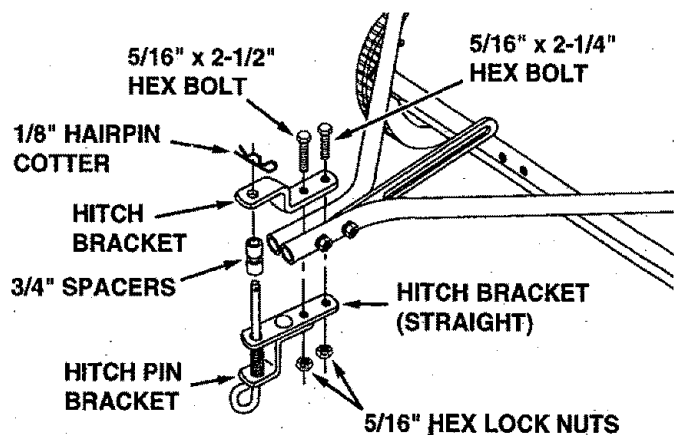

FIGURE 4
- Place the bent hitch bracket on top of the hitch tubes and place the straight hitch bracket with hitch pin underneath the hitch tubes. Fasten together using a 5/16" x 2-1/2" hex bolt (front), a 5/16" x 2-1/4" hex bolt (rear) and two 5/16" hex lock nuts as shown in figure 4. The bolts should straddle the front hitch tube bolt. **Do not tighten yet.**
- Assemble the two 3/4" spacers onto the hitch pin and secure the pin with the 1/8" hairpin cotter. See figure 4.